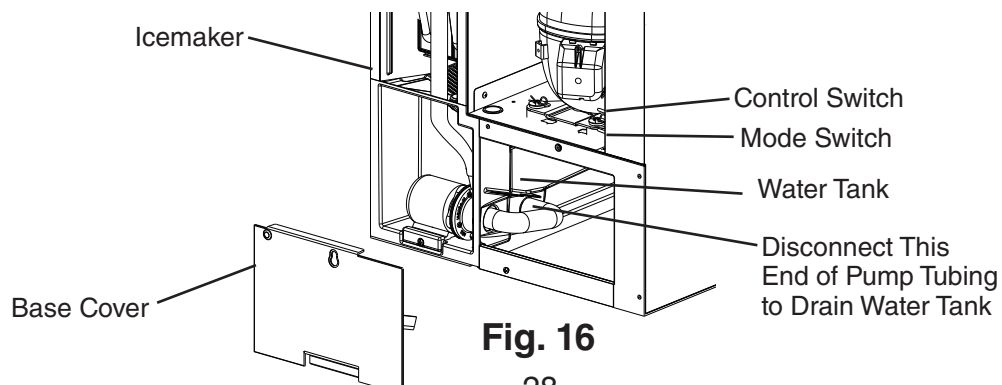

Fig. 16
- 6) Move the control switch to the "OFF" position, then remove the base cover and disconnect the rear pump tubing connection to drain the water tank. See Fig. 16.